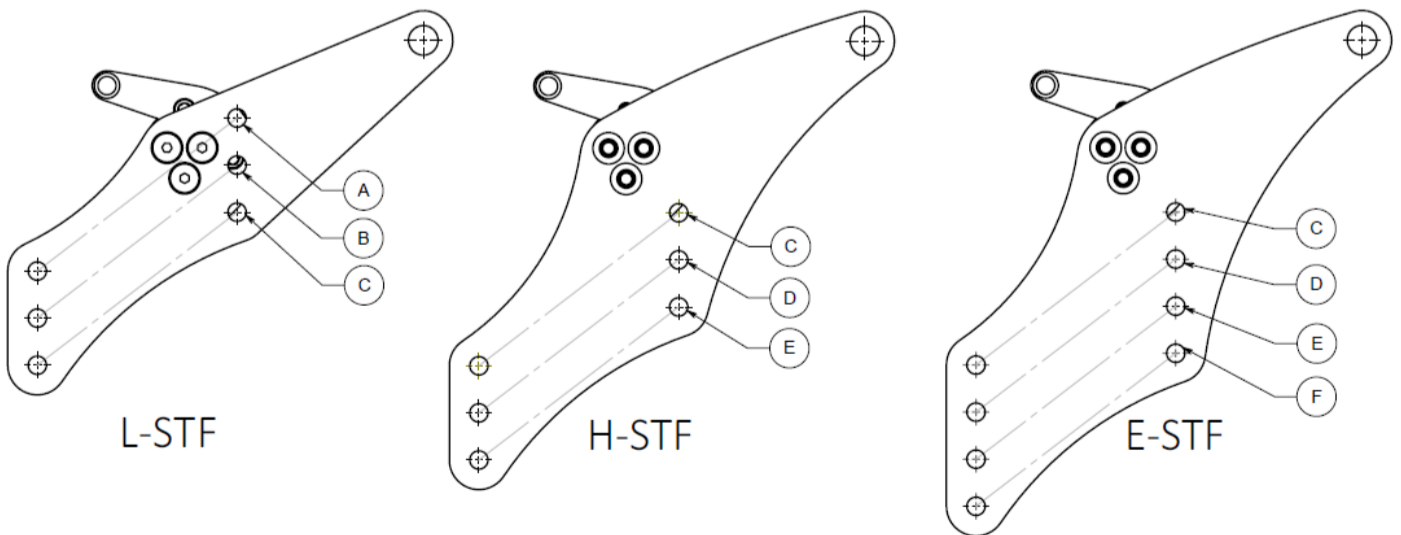

Figure 14.7: Bentley Wheelchair positions
4. Reposition the sub frame onto the lower frame. There are multiple seat height options for each chair. Refer to Figure 14.7 and Table 14.1. Once the holes on the sub frame, lower frame, and shim are lined up, insert the lower seat height bolt on each side of the frame. This will help with the alignment of the frames. Then refit the upper seat height bolt.